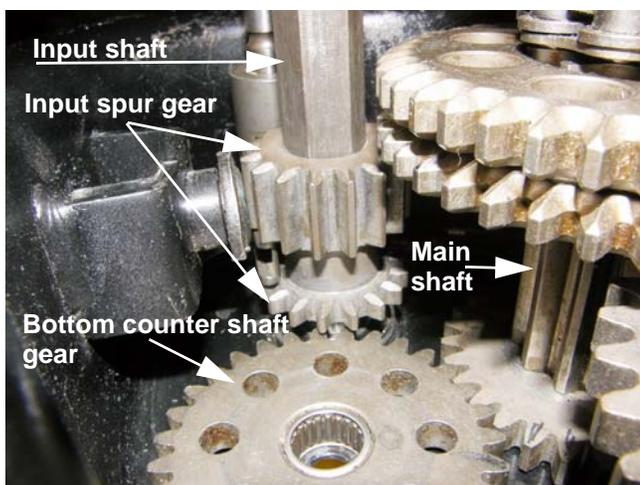

Figure 5.4
1. If the operator of the tiller moves the control lever one notch back from Wheels reverse, the tiller is in neutral. See Figure 5.4.